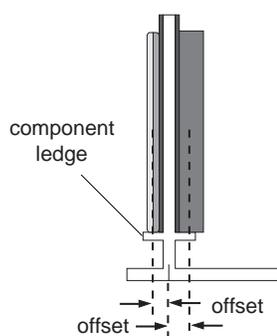

**Figure 7: Using the Component Holders**
Each optics system includes several of the standard component holders, that attach magnetically to the optics bench, as in Figure 7. Components mount magnetically onto either side of the component holders. For proper alignment of the components along the optical axis of the bench:
- ① Mount the component holder flush against the alignment rail of the bench, as in Figure 7.